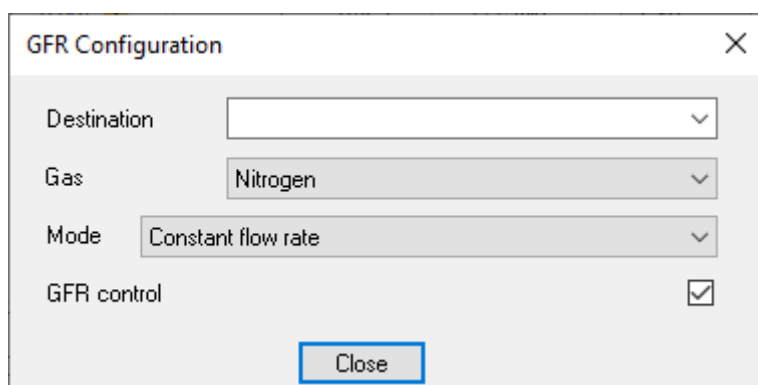

Fig. 37: GFR Configuration > GFR Control
2. In the *Configuration* window, navigate to the *Gas flow regulators* section and select the GFR. The *GRF Configuration* window opens. (Fig. 37).